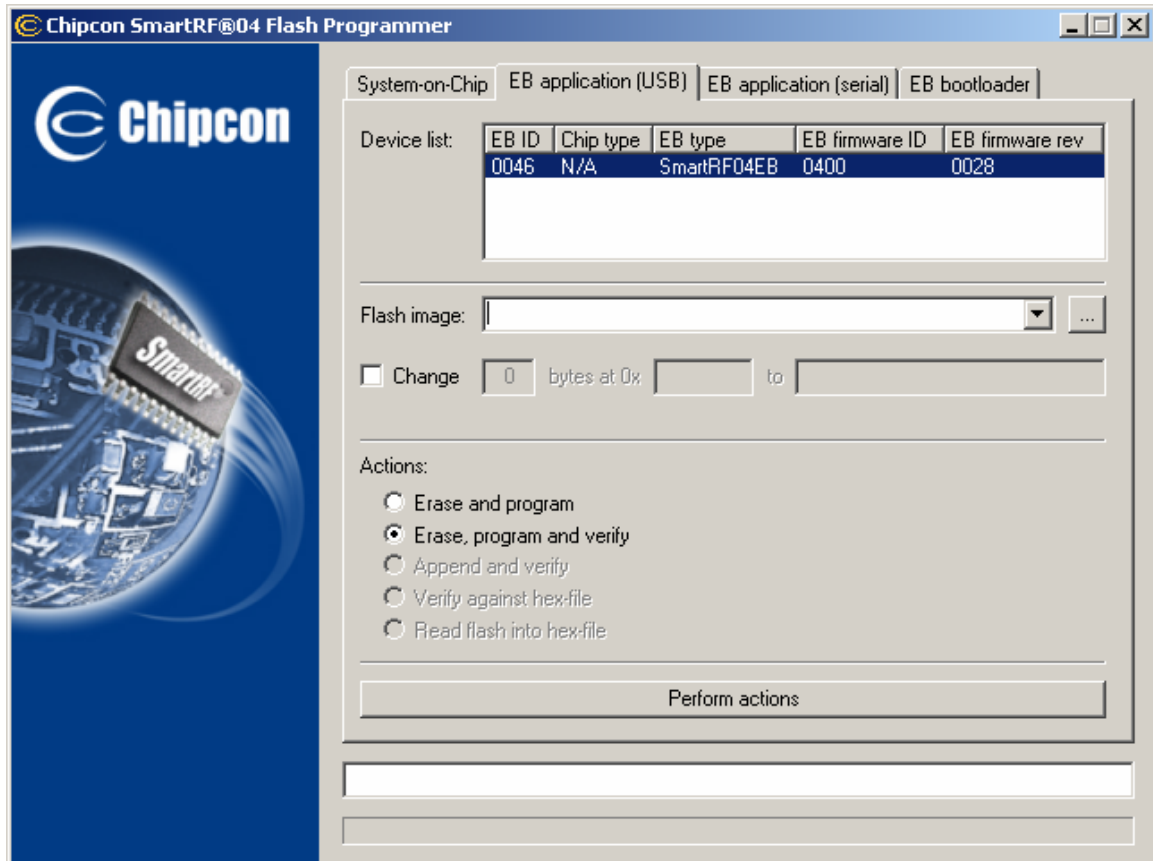

Figure 7. EB Application (USB) Tab
- Choose to the “EB application (USB)” tab as shown in Figure 7.
- The SmartRF®04EB does not show up in the Flash Programmer EB Application (USB) Tab (see Figure 7).